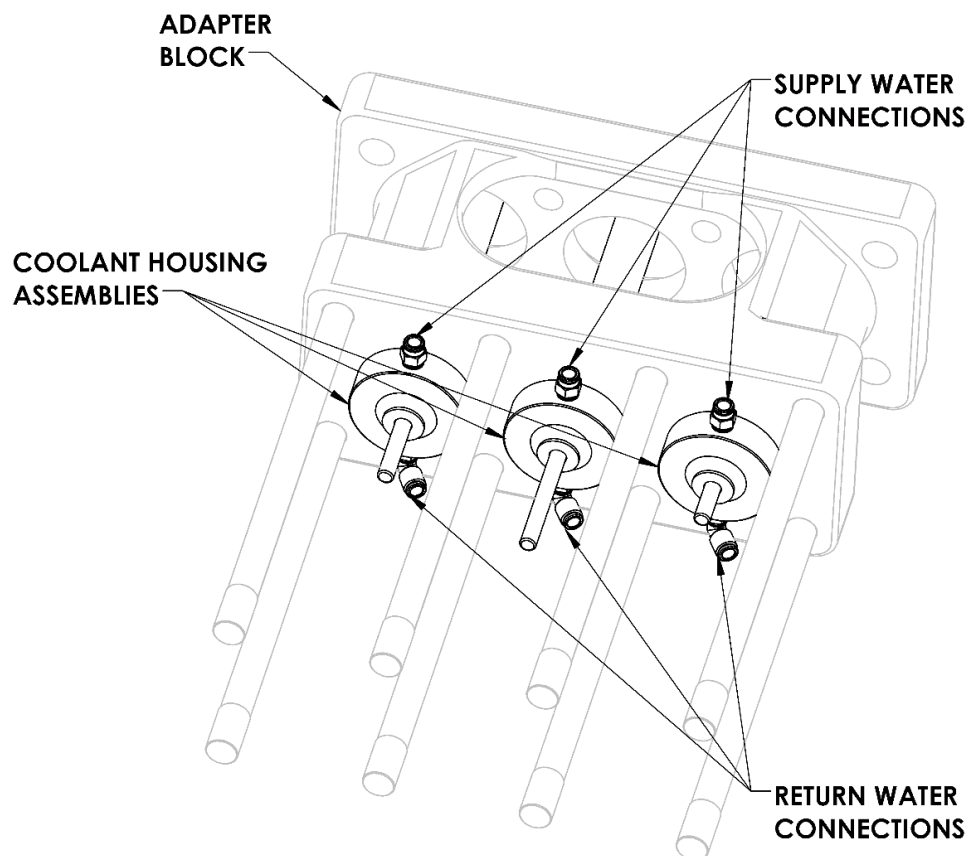

Figure 40 Coolant Housing Assembly Installation and Hose Connections
3. **Slide** the coolant housing assembly over the plunger until it is fully engaged into the bore in the adapter block (see **Figure 40 below**). **Note** that during this step the plunger is not firmly held and you can **move** it for alignment with the coolant housing assembly.